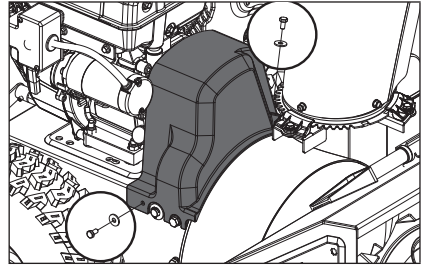

Figure 59
1. Remove the plastic belt cover on the front of the engine by removing two M6 x 12 bolts and flat washers. (Fig. 59)